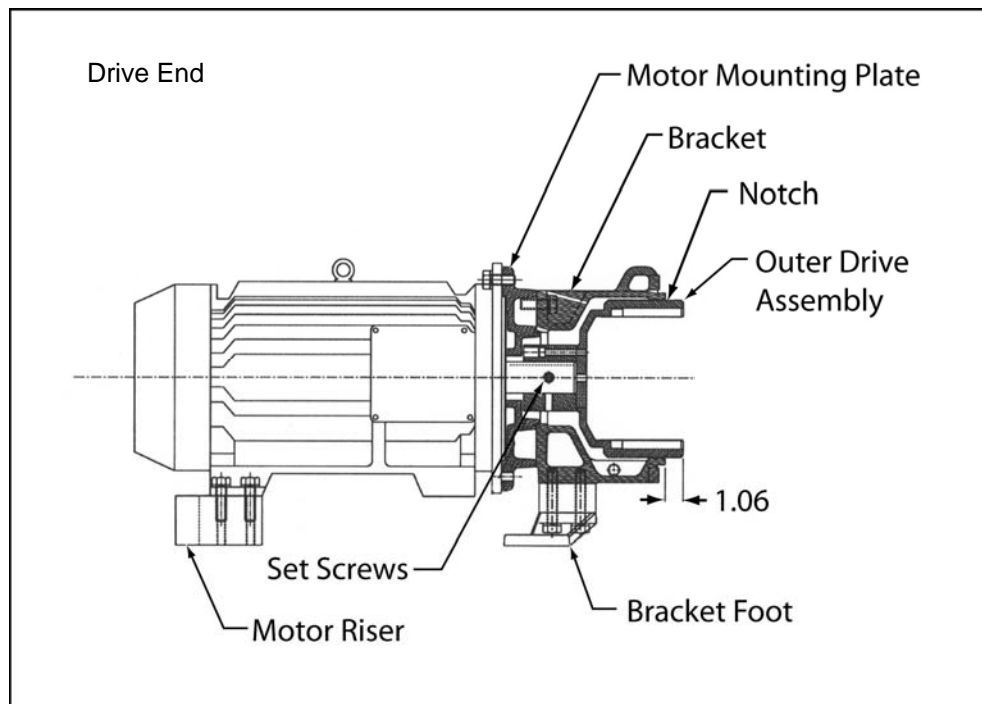
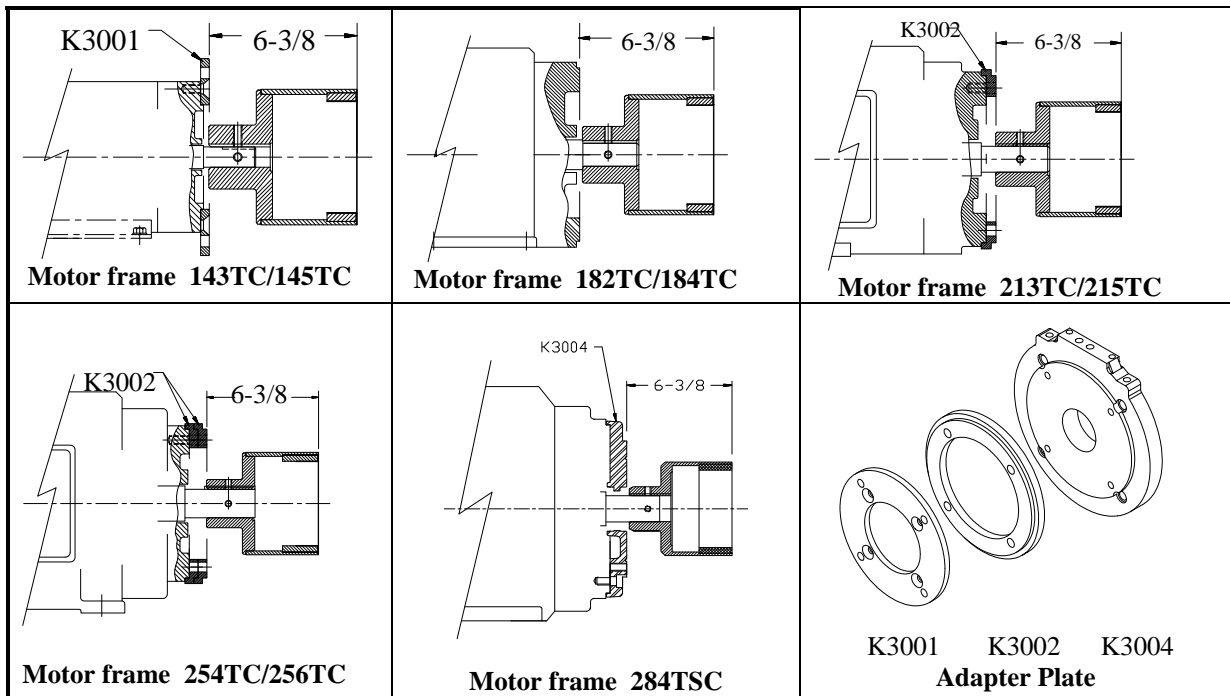

Figure 9-11 Outer drive position with respect to bracket
Figure 9-12 Outer Drive position with respect to motor
- 4) Back out the two set screws on the hub of the outer drive and place the outer drive onto the motor shaft. Position the outer drive so that the groove in the outer drive lines up with the end of the bracket +1/16, -0" (+1.6mm, -0mm). See Figure 9-11. Figure 9-12 shows the outer drive position with respect to the motor mounting plate for reference. Tighten the set screw to 10 ft-lb (13.6 N-m.) Install the 3/8" NPT pipe plug into the hole on the top of the bracket or bearing frame. This is to keep dirt out of the motor shaft area.